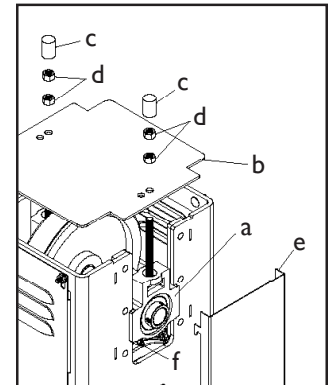

Figure 9: Greasing the Bearings
6. There are 2 take-up bearings (a) on the Superdrive pump that should be greased. To grease the bearings, first remove the top cover (b). Remove the two nylon bolt caps (c) and the four tensioning nuts (d) that attach the top cover to the pump frame and lift the top cover off of the frame. Remove the bearing covers (e) and grease the bearings using the grease fittings (f) on the bottom of the bearings. Replace the bearing covers, top cover, and tension the belts when finished (Figure 9).